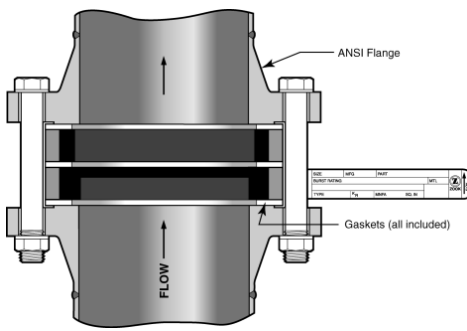

Figure 4
1) Rupture disks with Spacer Rings – Figure 4
- a) Install the spacer ring on the downstream (vent) side of the rupture disk. The spacer ring thickness is determined based on using three (3) 1/8" thick gaskets in between the flanges, rupture disk, and the spacer ring.